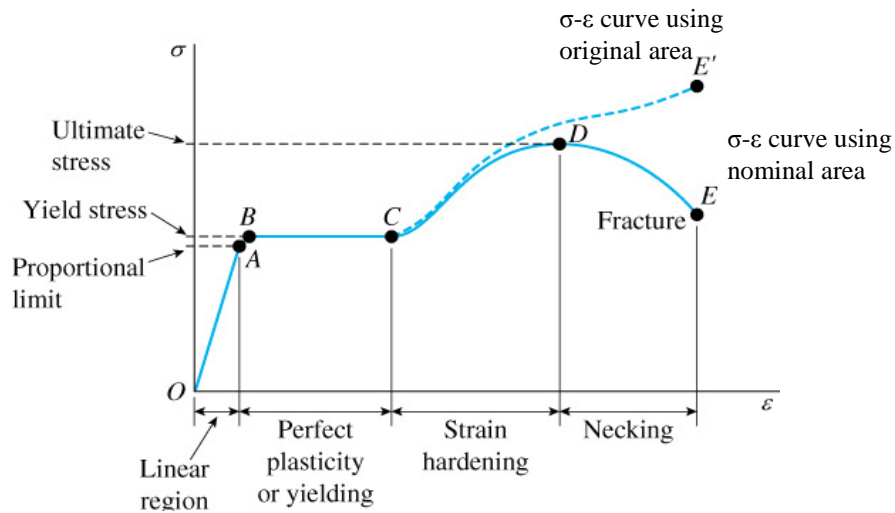

Figure 1.9: The stress-strain relationship
The stress-strain relationship of a material usually can be obtained from tensile or compression test on a specimen of the material. Figure 1.9 shows the stress-strain behavior which indicates how the material deforms on the application of load. The normal stress for the material is computed by dividing the load (P) by the original cross-sectional area (A). Stress-strain diagrams of various materials vary widely, and different tensile tests conducted on the same material may yield different result, depending upon the temperature of the specimen and the speed loading.